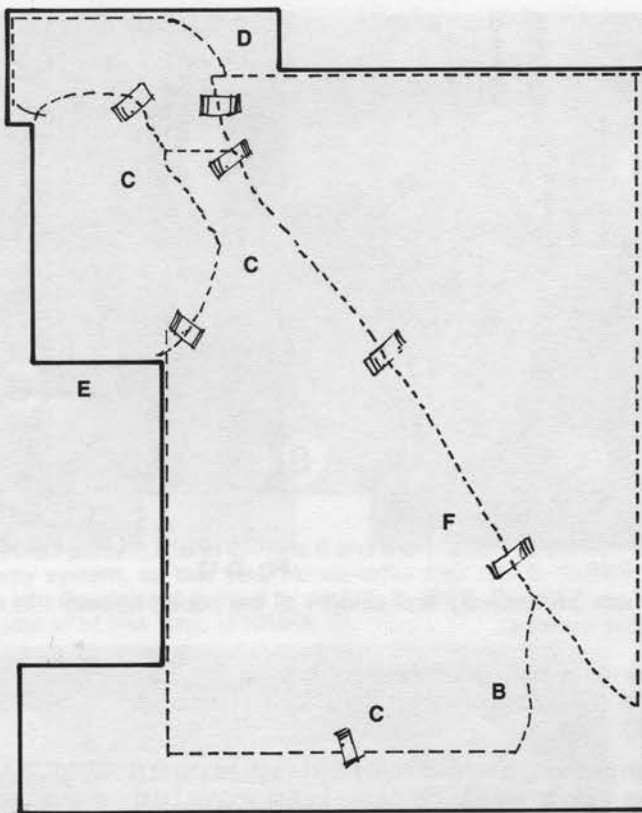

Fig. D-19
In (FIGURE D-19) small corner pieces of pages, (D), (E), and (F), are fitted into corners and taped to the first piece, (B).